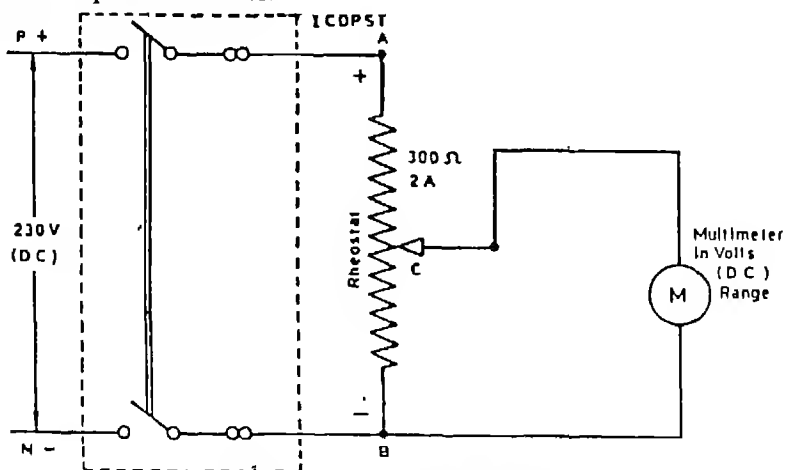

Fig. 3.4 Rheostat connected as a potential divider
- (i) Connect the circuit as shown in fig 3.4 (iii) Switch on the supply